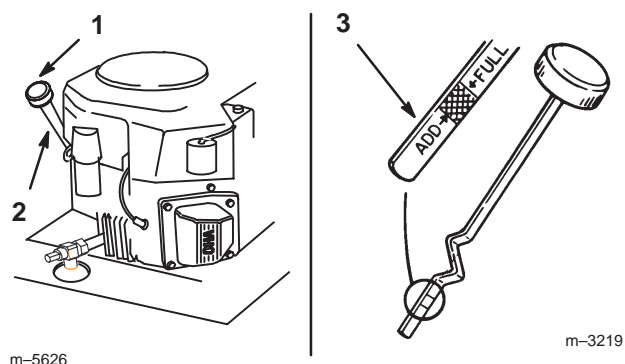

Figure 32
2. Clean around the oil dipstick (Fig. 32) so that dirt cannot fall into the filler hole and damage the engine.
3. Unscrew the oil dipstick and wipe the metal end clean (Fig. 32).
4. Slide the oil dipstick fully into the filler tube. Do not thread it onto the tube (Fig. 32). Pull the dipstick out and look at the metal end. If the oil level is low, slowly pour only enough oil into the filler tube to raise the level to the full mark.
5. Slowly pour approximately 80% of the specified oil into the filler cap (Fig. 32). Refer to Servicing the Engine Oil, page 30.